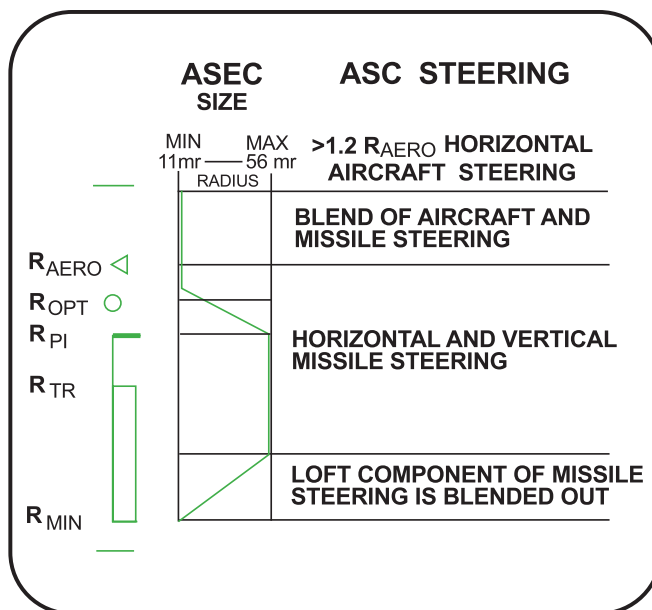

Figure 3-32 ASEC/ASC Relationship
- 9) ASEC/ASC Relationship Redefined: The ASEC/ASC relationship was redefined as a result of the DLZ changes. Figure 3-32 shows this relationship and the steering provided. The type of steering provided is a function of range to the target. Horizontal aircraft steering is provided against targets beyond $1.2 R_{AERO}$. A blend of aircraft and missile steering is provided for target ranges between $1.2 R_{AERO}$ and R_{AERO} . Once inside R_{AERO} , steering provides optimal horizontal and vertical missile steering. When R_{OPT} is reached, the ASEC begins to grow and reaches maximum size (56-mr radius) when the target reaches R_{PI} . At the midpoint of the missile maneuver zone (between R_{TR} and R_{MIN}), the ASEC size begins to decrease and the loft component of missile steering is blended out. When R_{MIN} is reached, the ASEC is minimum size.